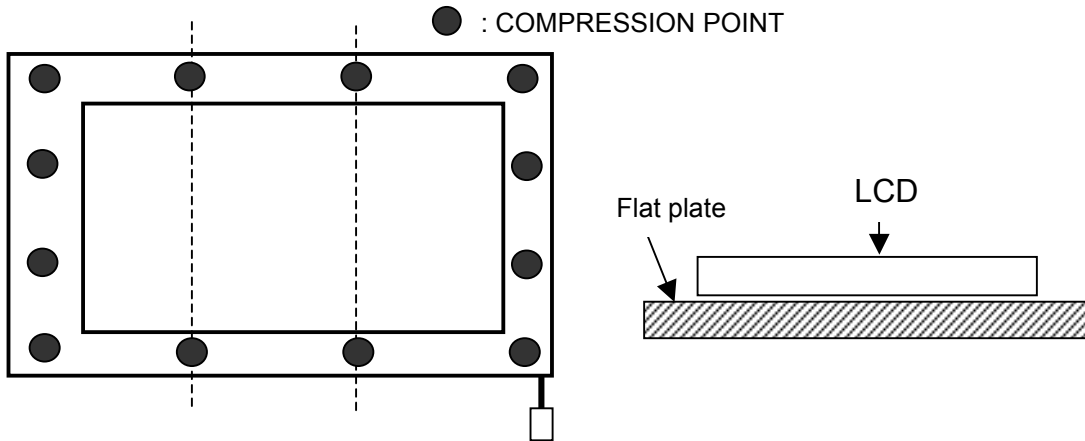

Fig 1-3-1
(1) The compression condition of front side
- (a) Compression point: 12 points (refer to Fig 1-3-1)